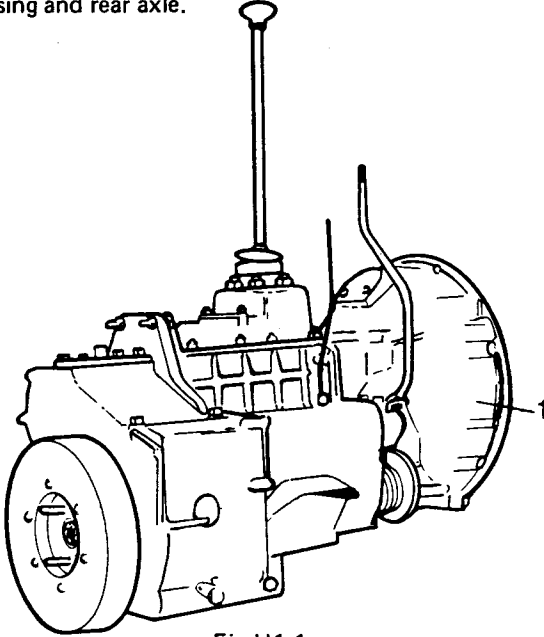

Fig H1.1
2. Refer to Fig H1.1. The gearbox/transfer box is bolted to the bell housing (1) and mounted to the chassis with rubber mountings. The idler wheel has two gears of different diameters and by means of a sliding gear on the output shaft, a high or low ratio can be added to the four speeds of the main gearbox. The forward output shaft drives the front wheels and this can be connected or disconnected by means of a dog clutch on the output shaft, to give 2 and 4 wheel drive.